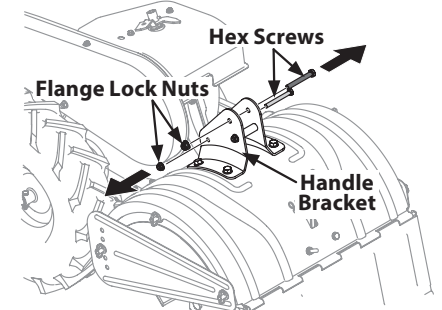

Figure 2
1. Remove the top two hex screws and flange lock nuts from the handle mounting brackets, but do not remove the bottom hex screw and flange lock nut. See Figure 2.